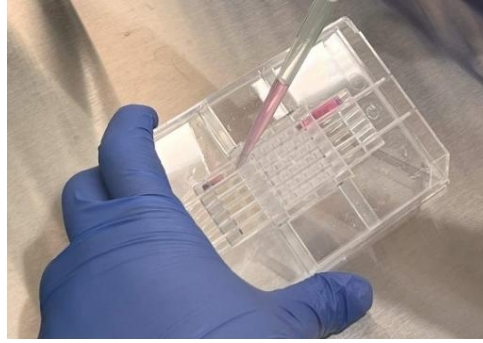

Figure 2. Manual dispensing of a cell growth medium in reservoirs of the 36PerfusionPlate.
2. Dispense 600 μ L of a cell growth medium in each reservoir of a 36PerfusionPlate (1200 μ L cell growth medium per fluidic channel) and place it on a flat surface for 1 - 2 minutes to fill all perfusion wells with the cell growth medium (**Fig. 2**). For a 144PerfusionPlate, dispense 900 μ L of a cell growth medium in each reservoir (1800 μ L cell growth medium per fluidic channel). **Note:** In case any perfusion wells are not filled with the cell growth medium, manually dispense 60 μ L of the growth medium in the empty perfusion wells.